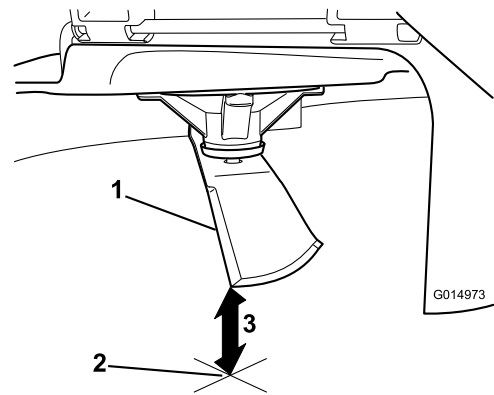

Figure 46
3. Measure from the tip of the blade to the flat surface (Figure 46).